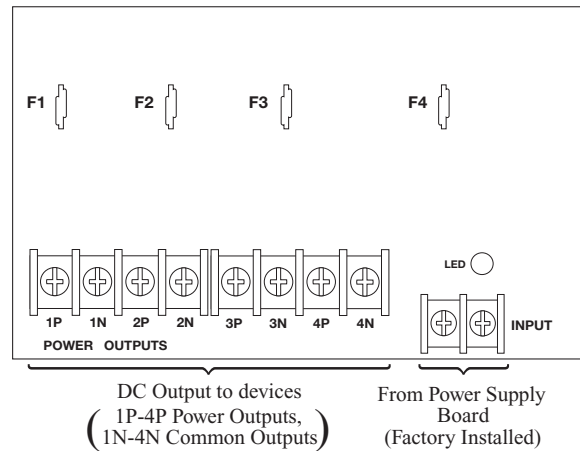

Fig. 3a
- b. For other Power Distribution Models: connect devices to be powered to the terminal pairs 1 to 4 marked [1P & 1N] through [4P & 4N] (*Fig. 2a & 2b, pg. 5*) or 1 to 8 marked [1P & 1N] through [8P & 8N] (*Fig. 3a & 3b, pg. 5*), carefully observing correct polarity.
6. For Access Control applications batteries are optional. When batteries are not used, a loss of AC will result in the loss of output voltage. When the use of stand-by batteries is desired, they must be lead acid or gel type. Connect one (1) 12VDC battery to the terminals marked [+ BAT -] for 12VDC operation. Use two (2) 12VDC batteries wired in series for 24VDC operation.